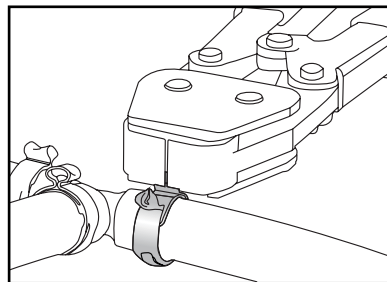

Fig. 16: Cut and remove clamp
3. Cut through and remove clamp (Fig. 16)